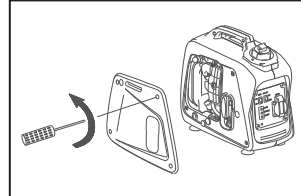

Fig. 9-1
- Remove the side cover (see Fig.9-1).